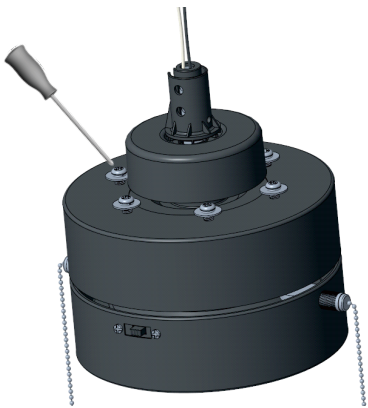

Fig 1.1
- 1.1 Remove 6 blade screws from the motor assembly. Secure each blade to the motor hub using the screws as shown in Fig 1.1.